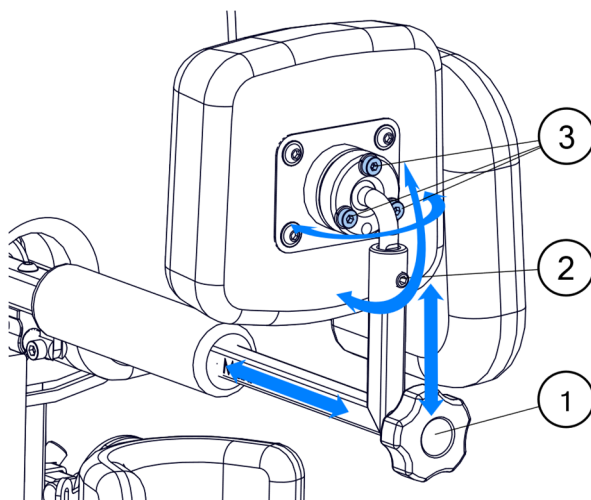

Fig. 7
After placing the patient in the device we put the back support bracket and secure it. Back support enables accurate regulation within all planes. Back support adjustment is shown in (Fig. 7). After setting the depth of back support, tighten the knob (1) and hence block the possibility to remove the back support. Maximum possible distance of the depth is marked with the "MAX" mark. The height of the attachment is regulated by undoing the screw (2). After setting the height of the back